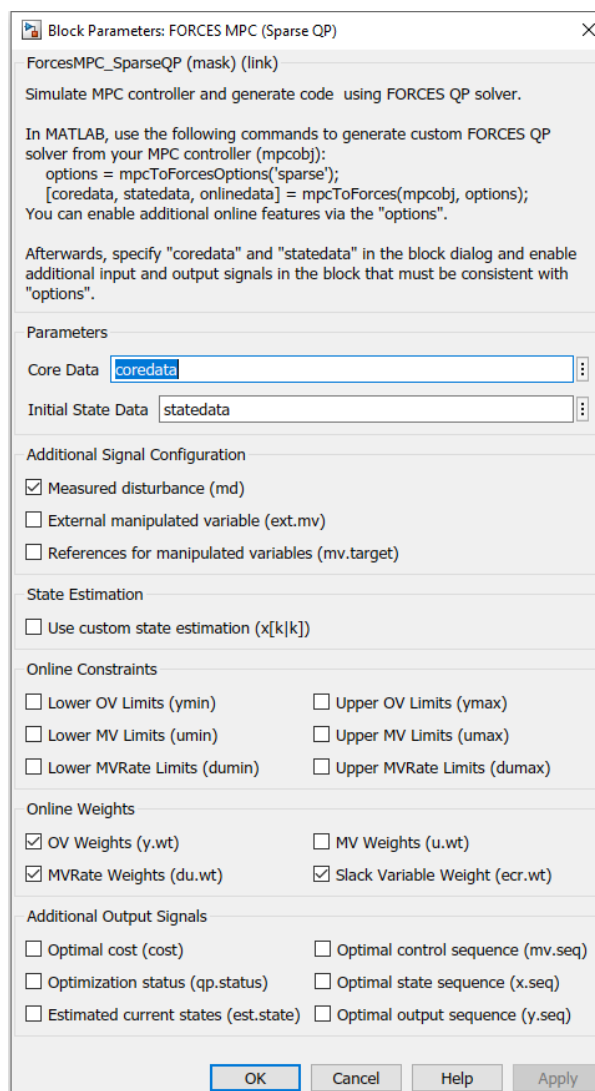
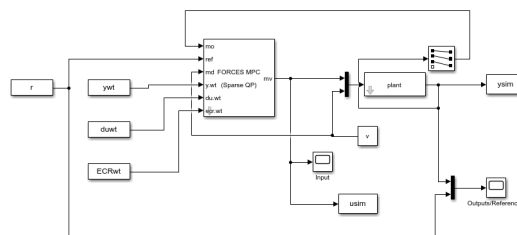

Figure 5.4: FORCES MPC block configuration
Figure 5.5: FORCESPRO MPC block integration in a Simulink model
The FORCESPRO sparse solvers can be used inside Simulink to deploy to dSpace MicroAutoBox II. All features of the MATLAB plugin are available through this Simulink block, namely measured disturbances, external manipulated variables, references for manipulated variables, custom state estimation as well as online weights and constraints. Configuring the block is done via the user interface shown in Figure 5.4 below.
- 2) Note that the option *ForcesTargetPlatform* needs to be specified. The structures *coredata* and *statedata* needed by the FORCESPRO solver are then provided to the Simulink block via the window shown in Figure 5.4. The integration of the FORCESPRO MPC block in a Simulink model is shown in Figure 5.5 below.